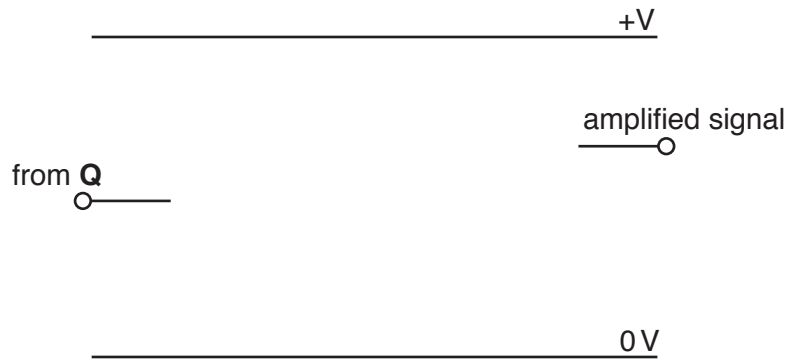

Fig. 18
- (v) The signal at **Q** will only provide a low current which must be amplified. Complete the circuit in Fig. 18 to show a transistor amplifier for the signal at **Q**.